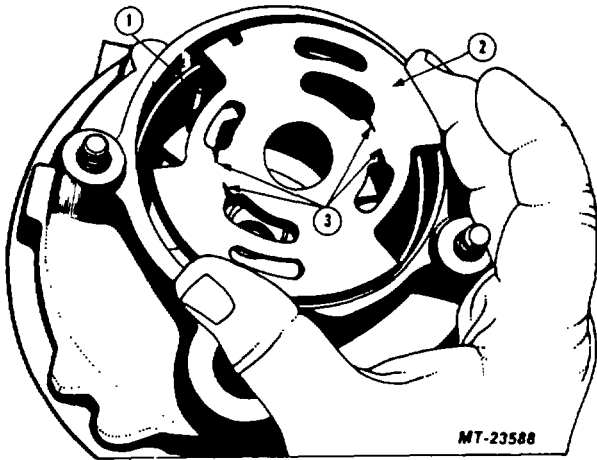

Fig. 29 Installing Front End Plate
3. Install front end plate in housing with O-ring side down, Figure 29 (CW pump assembly illustrated).